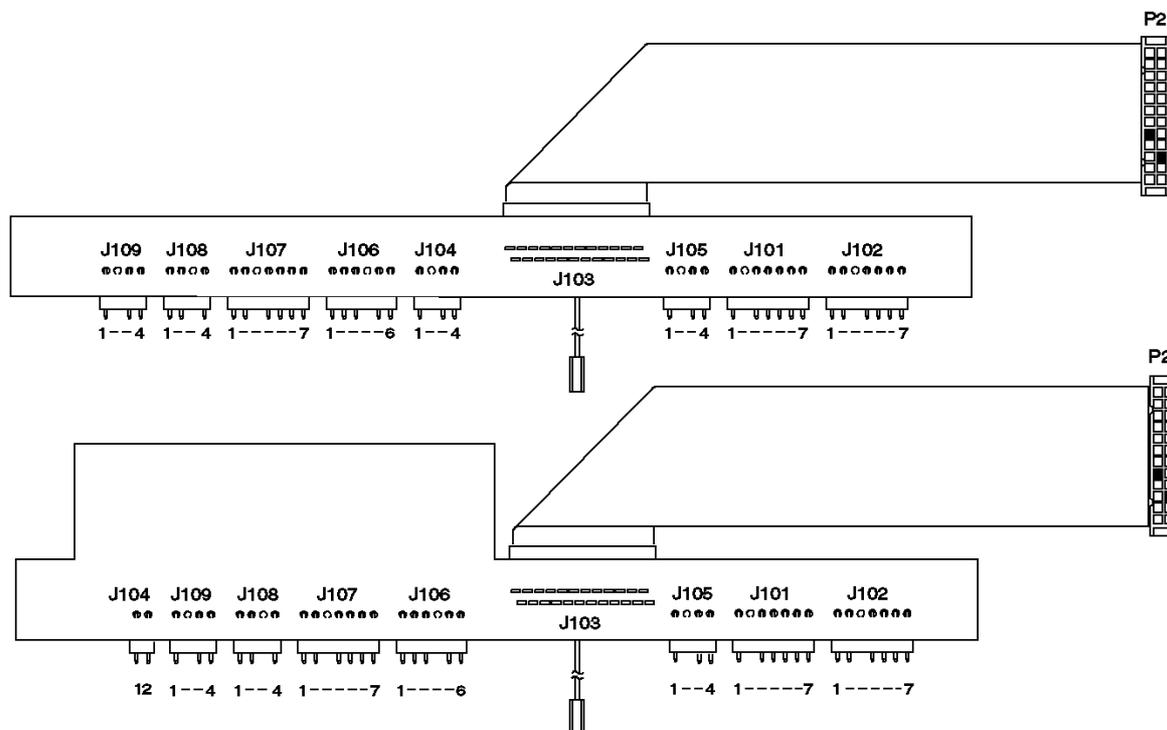
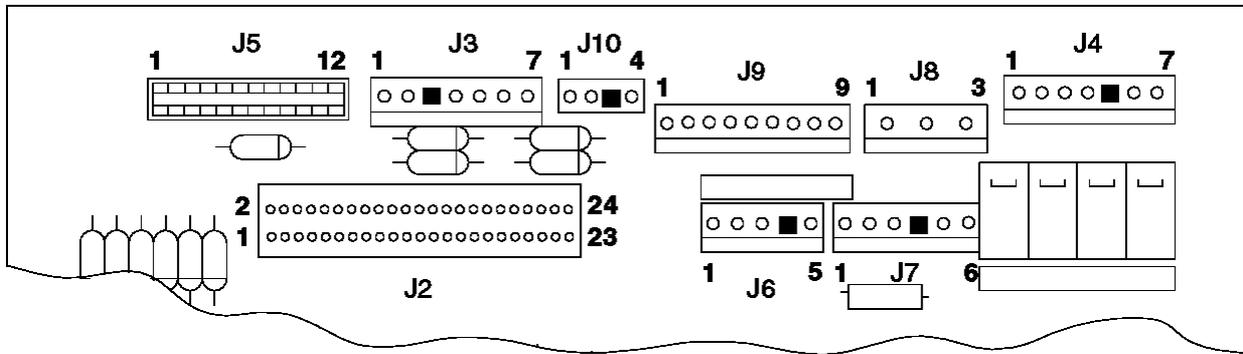

Figure 6-37. Extension Card Connections
Figure 6-38. Printer Card Connections
- Disconnect the transport motor cable from J4 on the printer card. See Figure 6-38 in topic 6.36 for the locations of the printer card connections.
These tables provide the test points required to check the sensors in the Model 3 Printer. See Figure 6-37 and Figure 6-38 to locate the sensor card and the test points.